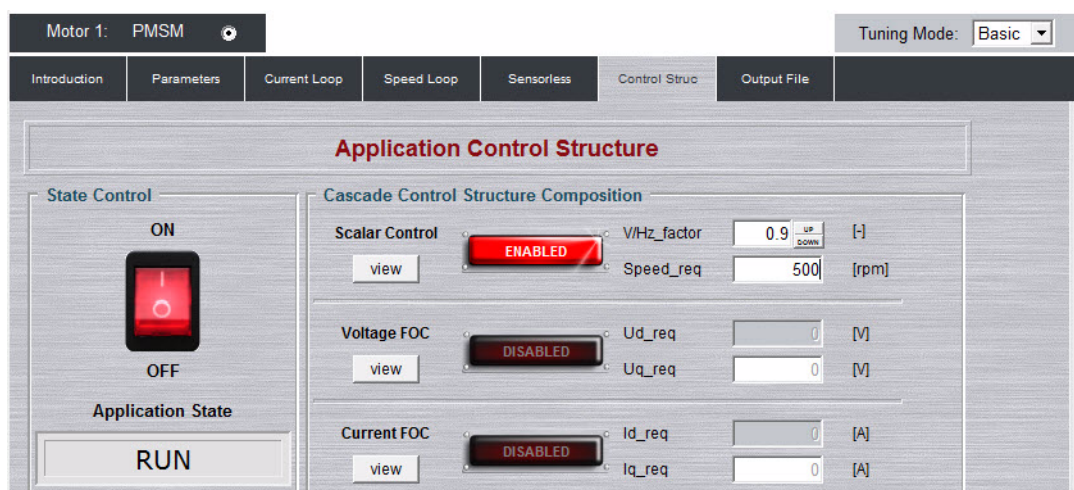

Figure 3. Phase Currents
4. Set the required speed value in the *Speed_req* field for example, 500 rpm in the Scalar control section. The motor should start running, see Figure 3.